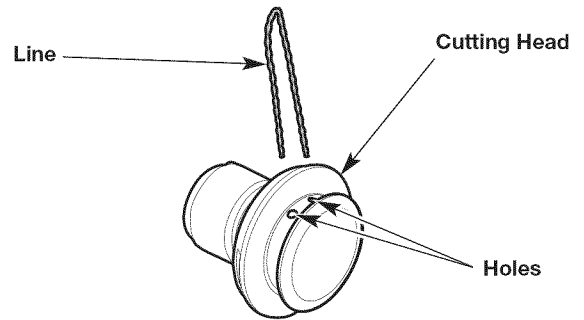
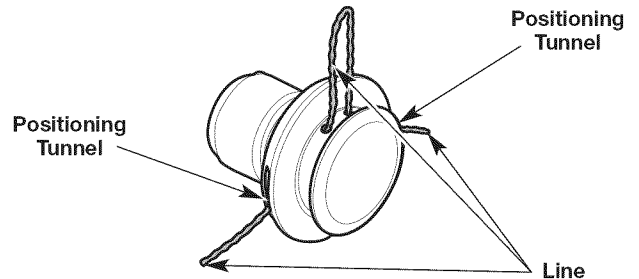

Fig. 19
Fig. 20
3. Insert the ends of the new trimming line into the holes in the cutting head (Fig. 19). Push the line through the holes until both ends protrude from the positioning tunnels (Fig. 20).